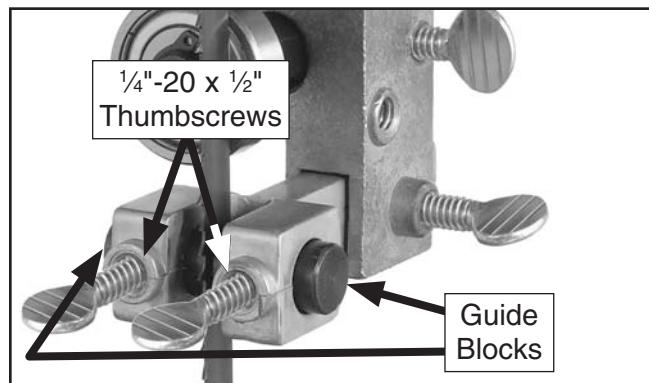

Figure 16. Blade guide installation.
25. Insert the guide blocks into the upper and lower blade guide assemblies, then secure them with the $\frac{1}{4}$ "-20 x $\frac{1}{2}$ " thumbscrews, as shown in **Figure 16**.